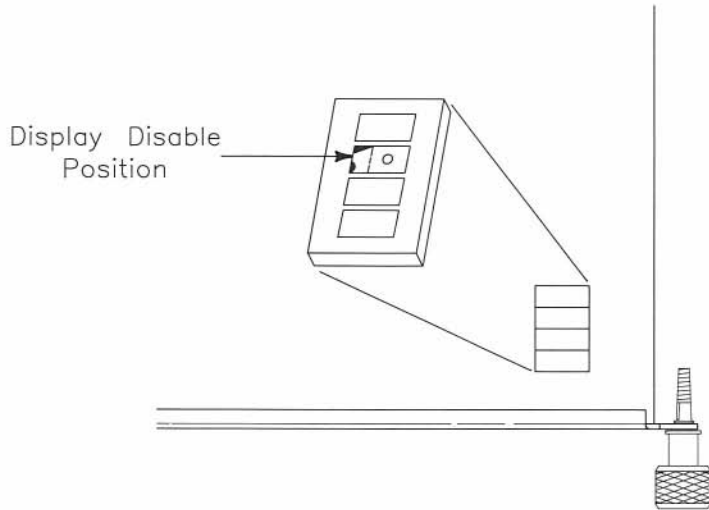

Figure 5-21. Display Disable Switch
- e. Locate the Display Disable switch (see Figure 5-21).